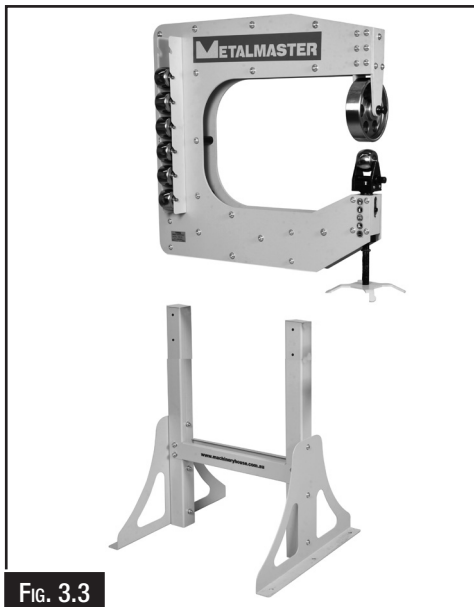

FIG. 3.3
5. Align the 4 mounting holes and secure with M10 x 20mm hex head screw and washer. (Fig. 3.3)